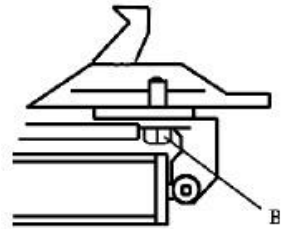

Fig 20
Note: After the first 20 days of use, retighten the jaws with tightening screws (B) on the Turntable (Fig 20)